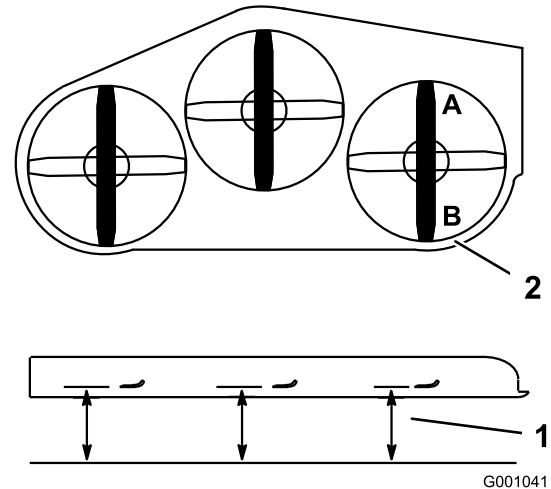

Figure 81
- Position 1 blade front-to-rear. Measure at **A** and **B** locations from a level surface to the cutting edge of the blade tips (Figure 81).